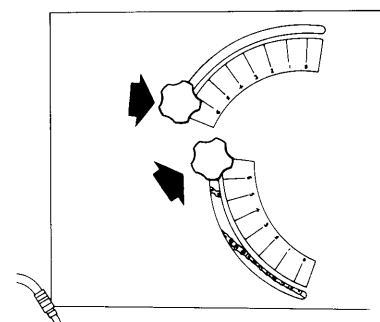

Figure 19 - Maximum Rates
- 1/ The Varibox Gearbox - Figure 19 & 20
- 2/ Loosen each knurled knob (see figure 19 or 20), set the levers to the recommended positions and retighten firmly.
- vi/ **Checking the rotation of the drives.** Before you begin the days seeding you can easily check the rotation of the seed and fertilizer metering systems by "ratcheting" the adjustment levers (see figure 19). Simply loosen the knurled knobs and move the levers backwards and forward a number of times. This will rotate the drives. This allows you to do the following:-